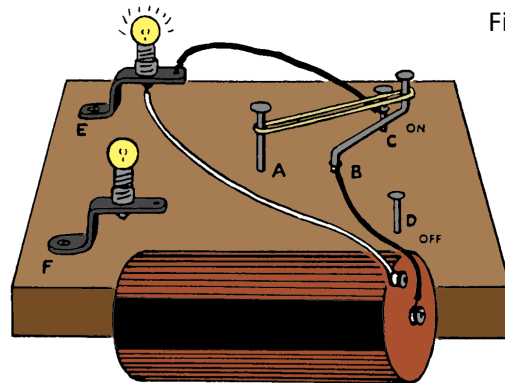

Figure 6
7. Lay out the electricity path and the circuit as shown in *Figure 6*. Use the black wire for the positive side of the circuit (the center "POLE" of battery). Twist it around the switch crank at point B and the center pole of the battery. Run another piece to the outside terminal of bulb socket at E. Run the white wire to the negative pole of the battery from the other terminal at E.